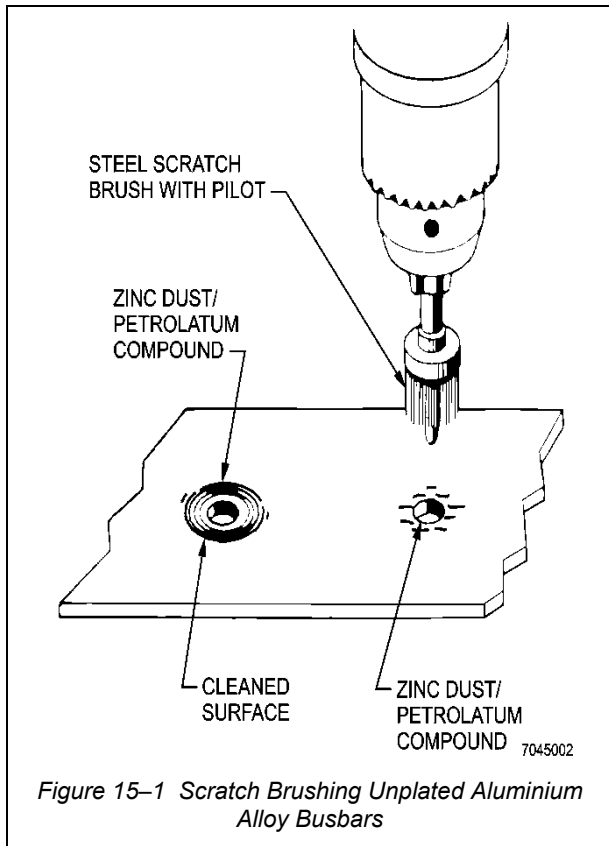

Figure 15-1 Scratch Brushing Unplated Aluminium Alloy Busbars
- a. Scratch brush the coated areas, using a rotary steel wire brush with a pilot as shown in Figure 15-1. Brush through the compound.